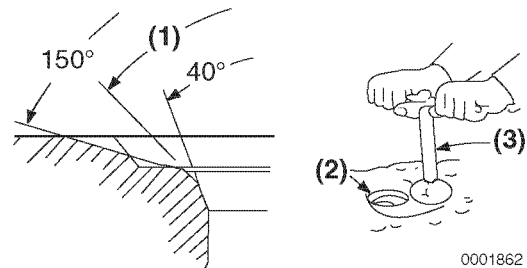

Figure 6-23
Light cutting can be performed by the use of a hand-operated cutter (Figure 6-23, (3)).
The valve seat diameter can be adjusted by top-grinding with a 150° stone to make the seat diameter smaller, and bottom-grinding using a 40° stone to make the seat diameter larger. Once the seat location has been corrected, grind and lap the seat angle (Figure 6-23, (1)) to specification. See *Cylinder Head* on page 6-6 for specifications.